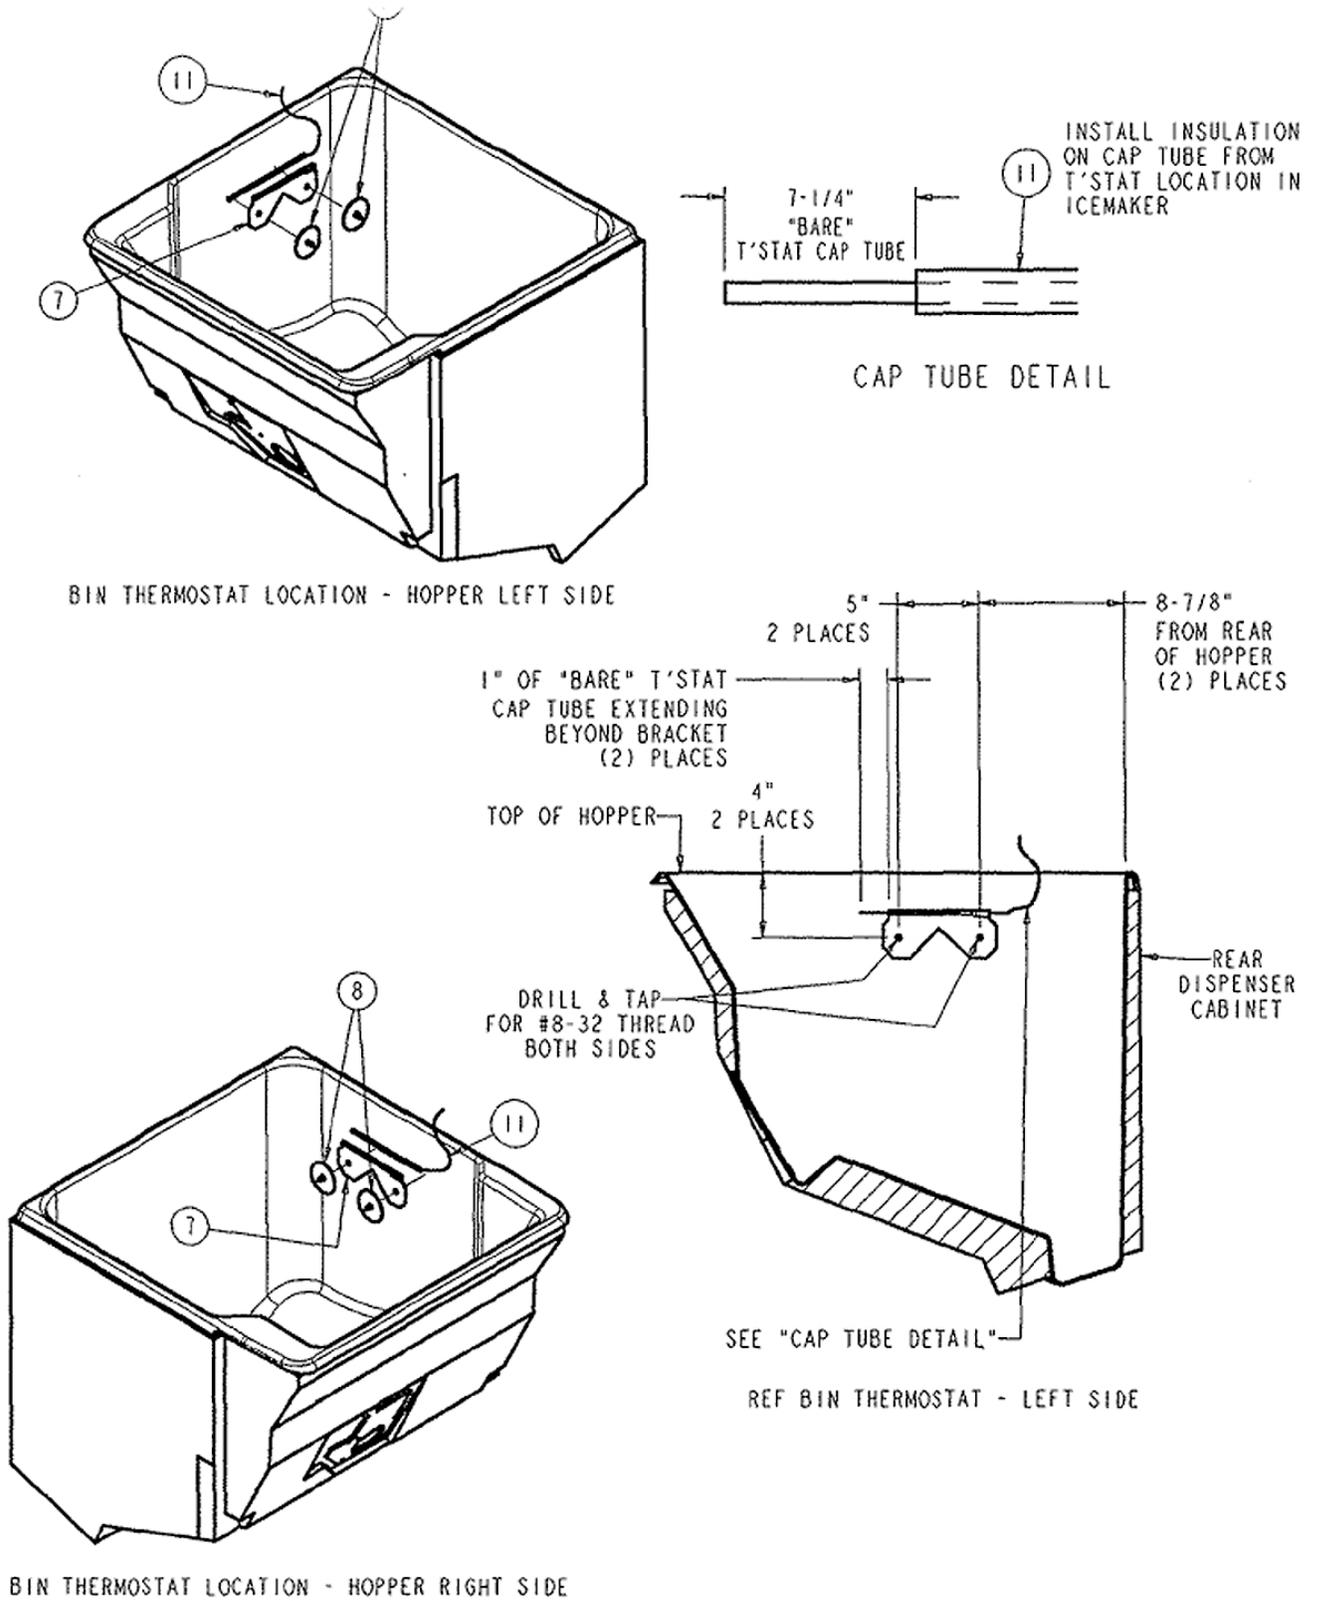

Figure 1.
1. Locate the mounting holes in the left and right side hopper walls as shown in Figure 1, details A and B.
2. Drill and tap #8-32 threaded holes (4) into the metal backing plates on the outside of the hopper left and right side walls. This will require drilling through the plastic hopper wall (approximately 1/8" thick) into the metal backing plate (1/16" thick).
3. Install the left and right side thermostat brackets (item 7) with the retainers (item 8) to the hopper walls as shown in Figure 1.
8. Follow the ice maker manufacturer's instructions to complete the installation of the ice maker including the bin thermostats. Route the thermostat capillary tubes from the ice maker down into the dispenser ice storage hopper (left and right sides). Install the insulation tubing (item 1) on the capillary tubes and secure to the mounting brackets as shown in Figure 1.